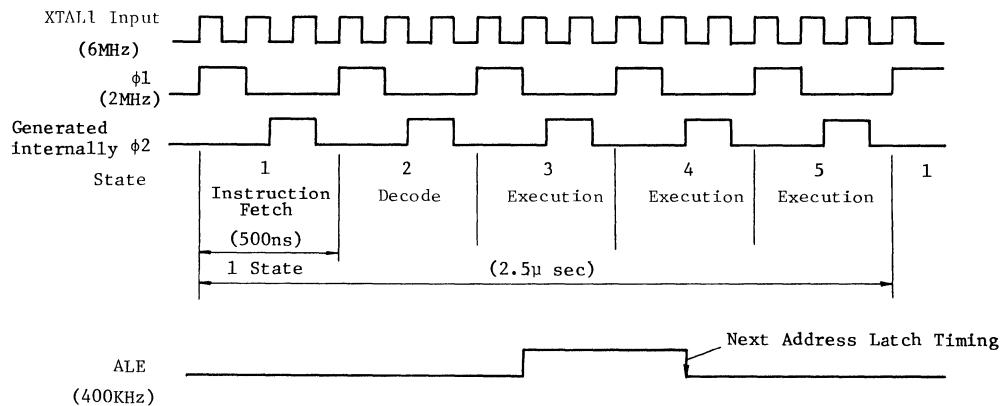

Fig.4 Instruction Cycle Timing
(1) Instruction Cycle
- Fig.4 illustrates its relationship with the clock input to CPU.
- ϕ_2 clock shown in Fig.4 is derived to outside by ENT0 CLK instruction.
(2) External Memory Access Timing